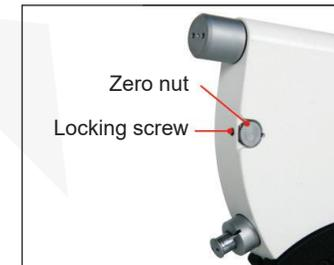

Fig.1
- Loosen locking sleeve, place the gauge block between the two measuring surfaces and rotate the adjustment nut. When the two measuring surfaces contact with the gauge block, continue turning the adjustment nut until the pointer point to the zero position and tighten the locking sleeve. Slightly shake the gauge block to make the gauge block completely in contact with both measuring surfaces. If the pointer does not change, it can be measured directly; if have, turn the zero nut until pointer point to the zero and tighten the locking screw (Fig.1).